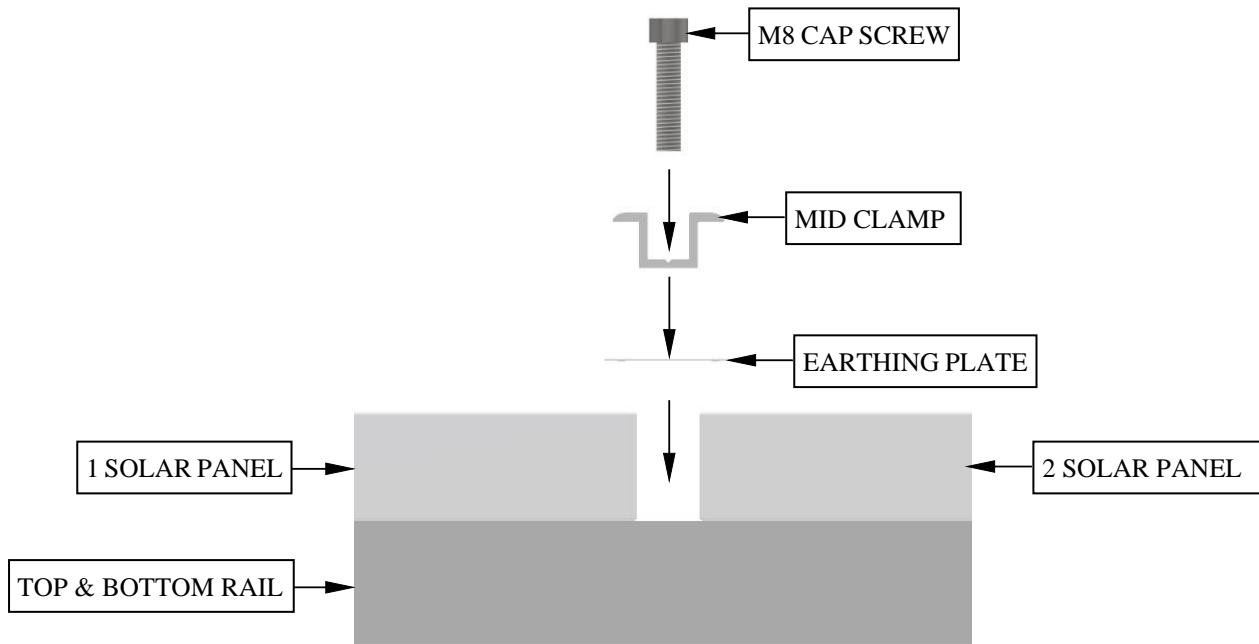

Figure 14: Mid Clamp Installation
- To connect two Top & Bottom rails, tighten a flat plate at 15 Nm torque in the configuration as seen in Figure 14. Ensure that the two rails are correctly aligned before tightening the nuts.